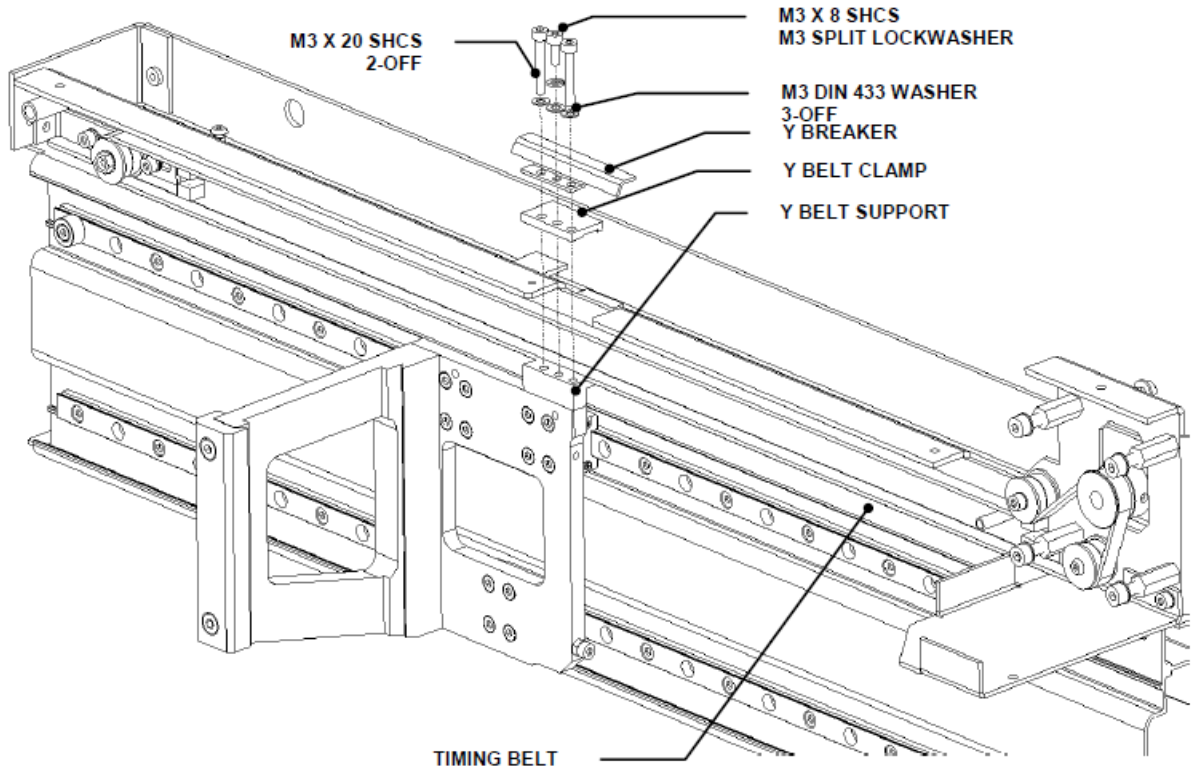
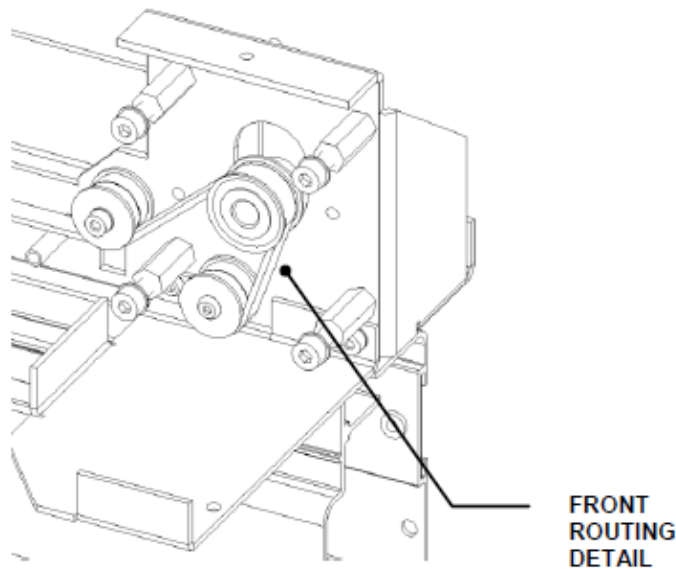

Figure Y-8: Y Transport Drive Belt
Figure Y-9: Routing Detail around Right Side of Extrusion
The Y Transport Drive Belt is shown in Figure Y-8.
1. Route a length of 1054mm of GT2 2mm x 6mm Timing Belt around the motor and the pulleys on the right side of the extrusion (Figure Y-9). Route the remainder of the belt as shown in Figure Y-8 (the motor is not shown in the figure for the sake of clarity),
3. Fit one screw and split washer and washer loosely to the clamp assembly as shown in Figure Y-8.,